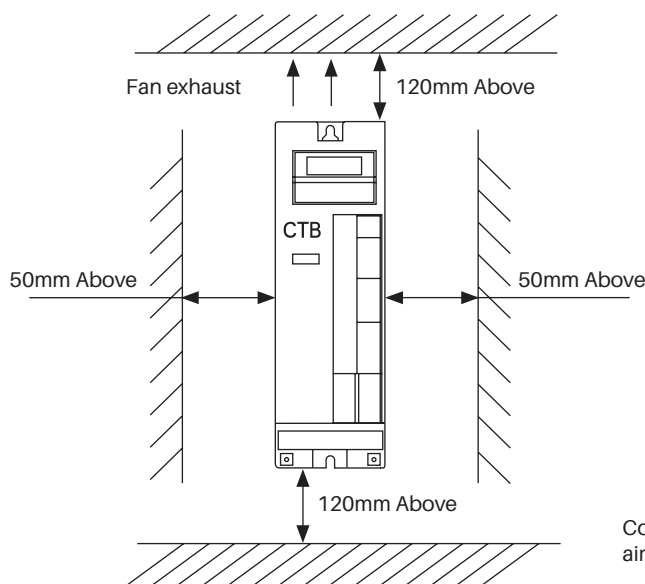

Figure 1-7 Single controller installation
- Installation spacing and distance requirements of single driver are shown in Figure 1-7.